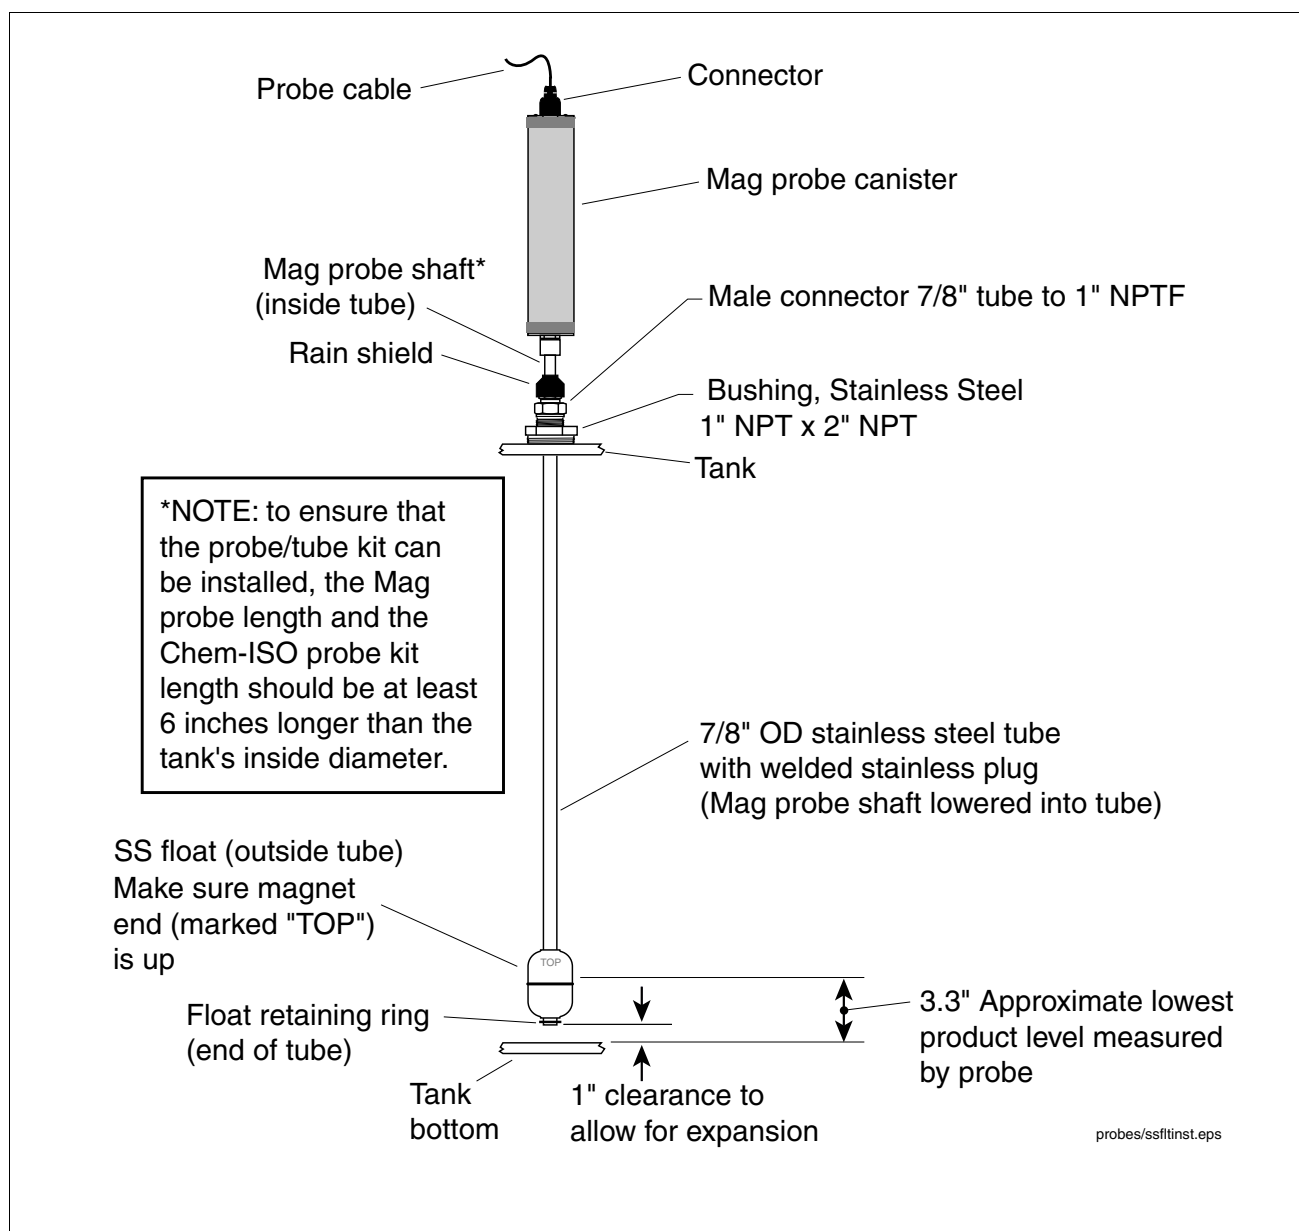

Figure 26. Media Isolated Mag Plus Probe Installation Example
Slide the large shipping washer off of the stainless steel tube and discard it. Carefully slide the stainless steel float, non-magnet end first, onto the tube and down against the retaining ring at the bottom of the tube (the float end marked "TOP" should be facing up). The float must be installed magnet-end up to measure fuel correctly (see Figure 26).
1. With the float against the retaining ring, carefully lift the open end of the tube up and lower the assembly, float end first, into the tank until the tube rests on the bottom of the tank (Figure 26). Carefully slide the 1" x 2" stainless steel bushing, 2" end first, down over the tube until it rests against the tank opening. Apply UL classified sealant suitable for use with the product in the tank to the outside bushing threads that will be screwed into the tank fitting. Screw the bushing into the tank fitting. Tighten the bushing as required to ensure a proper seal.